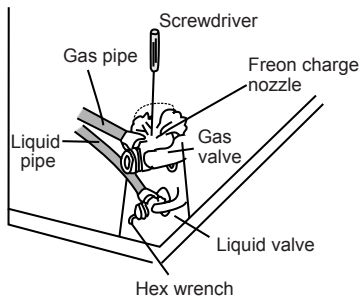

Fig. 9
7. Open valve core of liquid valve and gas valve completely (fig. 9)